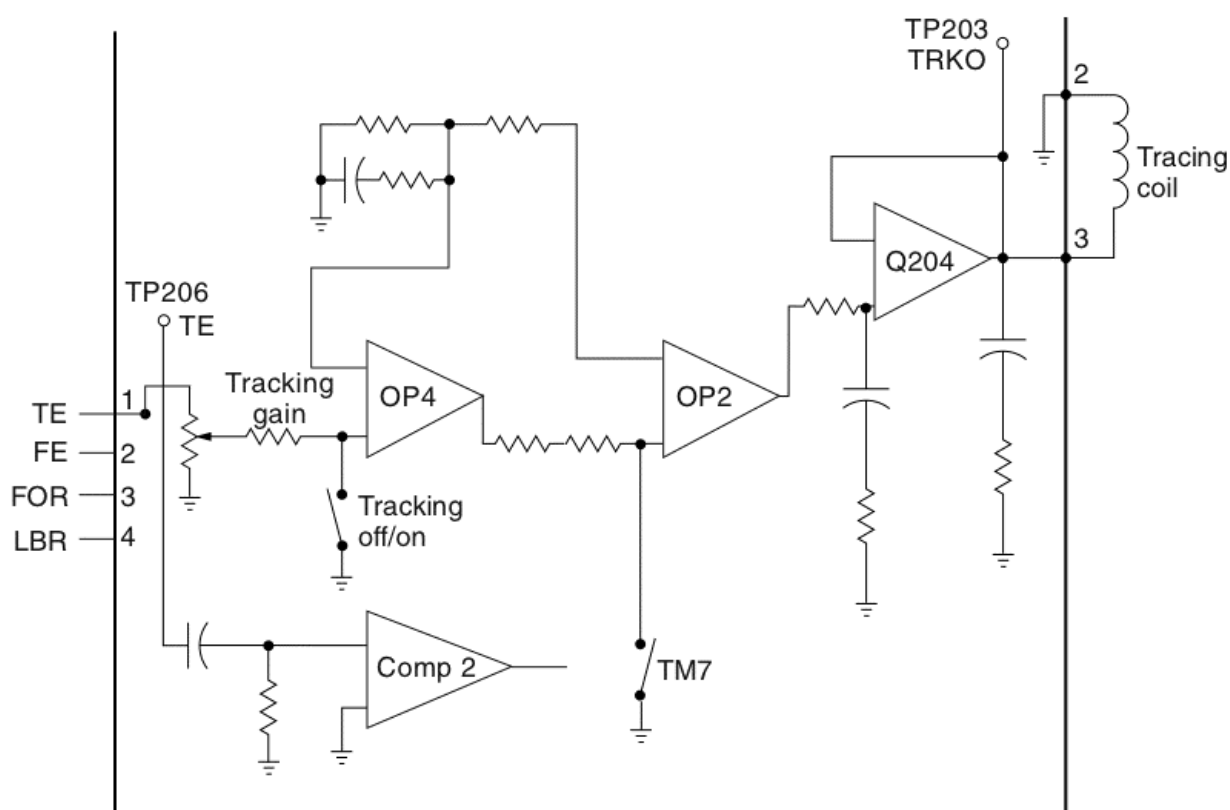

FIGURE 26-13 The tracking servo circuits in Onkyo CD player.
The Onkyo DX-200 tracking servo circuit is shown in Fig. 26-13. The tracking error (TE) input from pin 1 of P201 is posed to the R226 variable resistor for gain adjustment before being applied to pin 13 of Q202. The signal passes via a phase-compensating operational amplifier (OP4) to pin 3, then to pin 2 to be passed through another phase-compensating operational amplifier (OP2). The output from pin 27 then passes to the optical-pickup tracking coil by driver Q204 to drive the object lens.